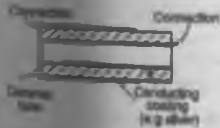

Figure 6.16
4. **Ceramic capacitors.** These are made in various forms, each type of construction depending on the value of capacitance required. For high values, a tube of ceramic material is used as shown in the cross section of Fig. 6.16. For smaller values the cup construction is used as shown in Fig. 6.17, and for still smaller values the disc construction shown in Fig. 6.18 is used. Certain ceramic materials have a very high permittivity and this enables capacitors of high capacitance to be made which are of small physical size with a high working voltage rating. Ceramic capacitors are available in the range 1 pF to 0.1 μ F and may be used in high frequency electronic circuits subject to a wide range of temperatures.